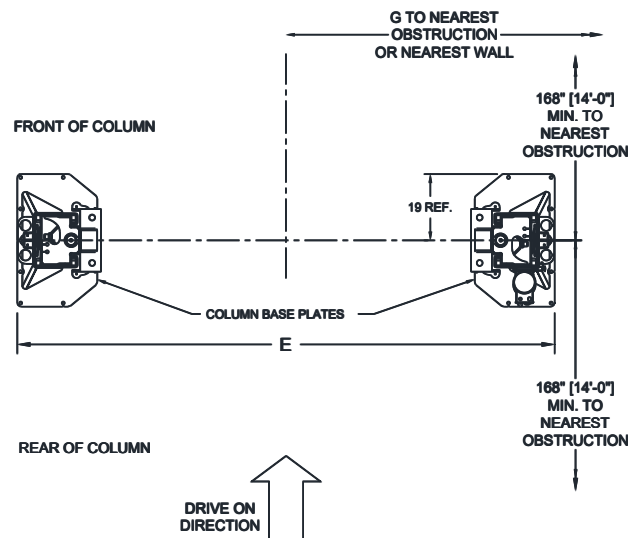

Fig. 1b- Service Bay Layout
- See **Fig 1** for the lift layout. Determine which side of the bay that the power unit will be on and identify the column assembly with the power unit bracket. Layout the service bay according to the architect's plans or owner's instructions (**see Fig. 1b**). **Failure to install in this orientation can result in personal and property damage.** Be certain that the proper conditions exist, see pg 3.